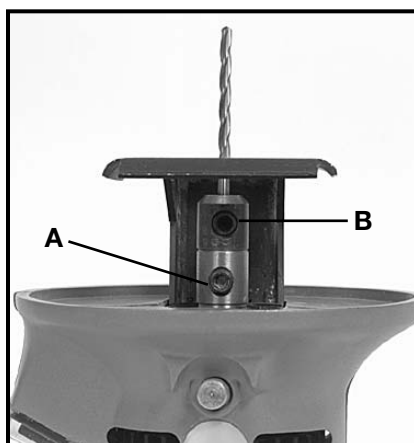

Fig. 4
1. Clean and insert the shank of the special chuck (#43224), into the Cutout Tool spindle until it bottoms (see Fig. 4).
3. Firmly tighten screw (A) Fig. 4.
5. Firmly tighten screw (B) Fig. 4.